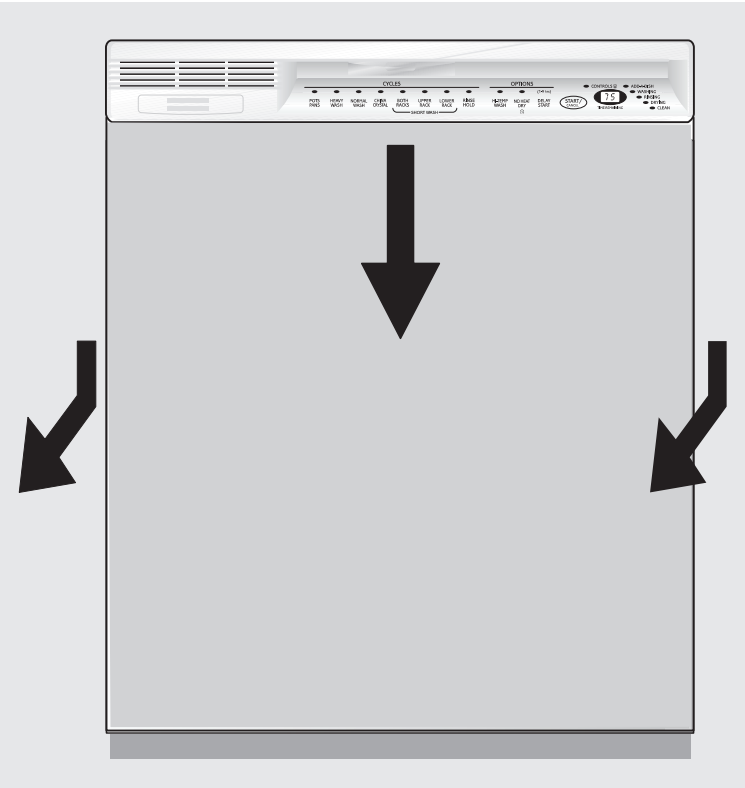

Figure 19
3. Place one hand on each side of door and pull down at top approximately 1/4". Pull entire door assembly toward you to remove. **See Figure 19.**